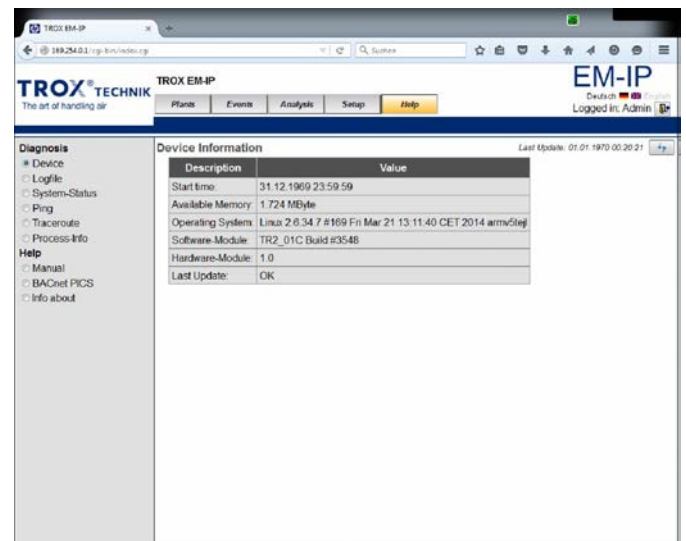

Fig. 45: Help (example)
- ⇒ The 'Help' menu (Fig. 45) is displayed.